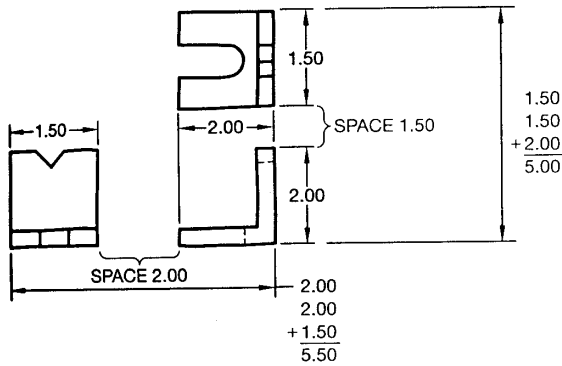

FIGURE 7.56 ■ Rough sketch with overall dimensions and selected space between views.
Step 1. Use an A3-size (297 × 420 mm) or B-size (11 × 17 in.) drawing sheet. The recommended working area is shown in Figure 7.56. The amount of blank area on a drawing depends on company standards. Some companies want the drawing to be easy to read with no crowding; others may want as much information as possible on a sheet. Generally, .50 in. (12.7 mm) should be the minimum space between the drawing and border line. More space is preferred. An area for future revision generally (but not always) should be left between the title block and upper right corner. An area for general notes should be available
to the left of the title block for ASME/ANSI standard layout or in the upper left corner for Military standard layout. The remaining area is the space available for drawing. On Figure 7.56, this area is about 10 × 6 in. (250 × 15 mm).
Step 2. After determining the approximate working area, use your rough sketch as a guide to establish the actual size of the drawing by adding the overall dimensions and the space between views. (See Figure 7.56.) The amount of space selected will not crowd the views. The amount to select is an arbitrary decision and one where the drafter must use good judgment. Keep in mind that, for now, you will not consider dimensions when evaluating space requirements. The effect of dimensions on drawing layouts is discussed in Chapter 14.